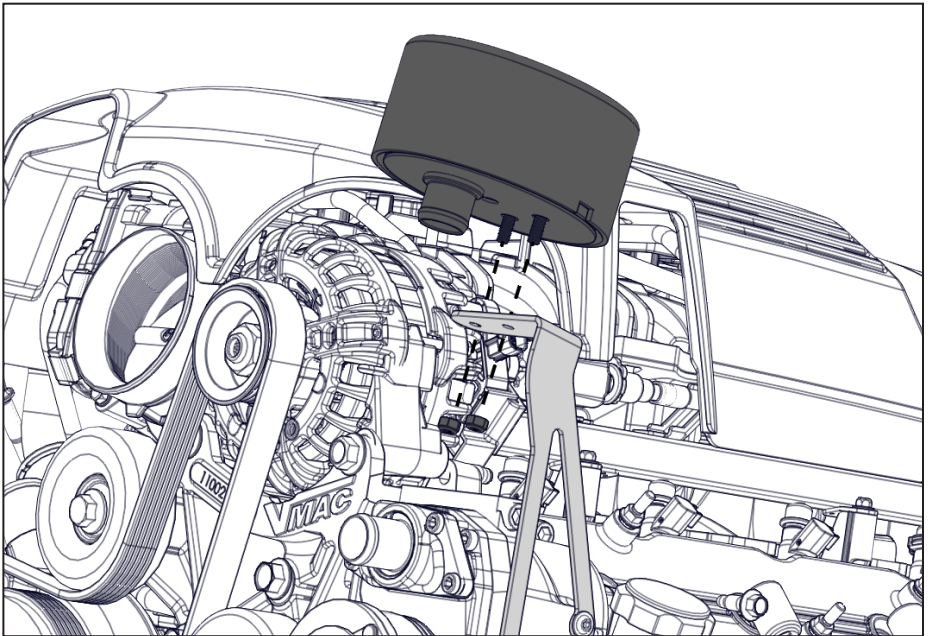

Figure 21 — Mount air filter
- Install the VMAC compressor air filter assembly using the supplied nuts (Figure 21).